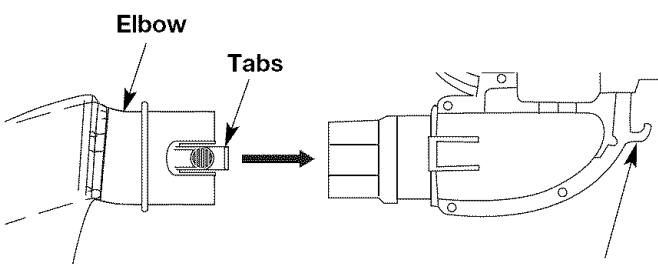

**Fig. 5**
5. While holding the vacuum door open, insert the assembled vacuum tube (put together in Step 2). Arrange the tube so the flat area faces the vacuum door. The grooves on the side of the tube will line up with the small tabs in the impeller intake (Fig. 5). From the exterior, align the small arrow on the vacuum tube with the arrow on the impeller intake.